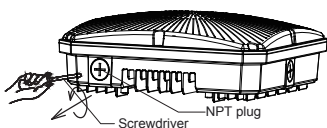

Figure 1
- Unscrew the NPT plug in the center using a screwdriver (Figure 1).